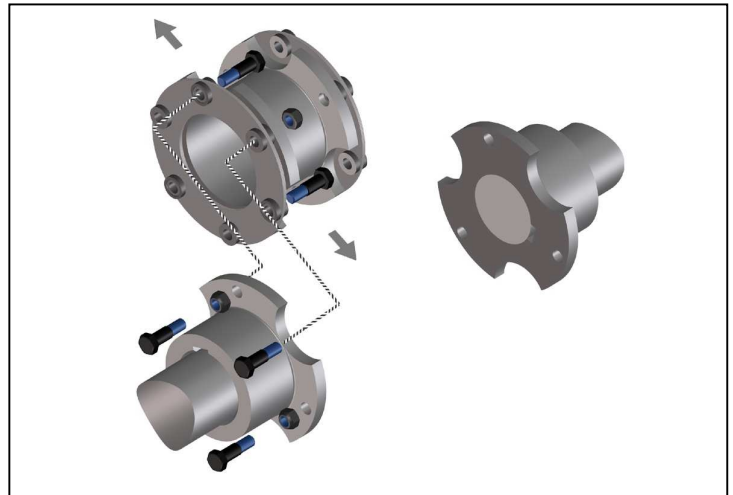

Fig. 10
- Radially lift out the spacer along with the disk packs of the hub flanges. For larger couplings use appropriate tools and lifting devices such as cranes or blocks and tackles (Figure 10).